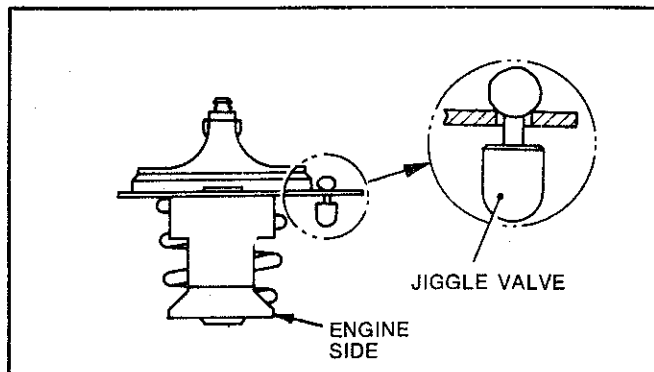

Fig. 6—Thermostat (imported type)
(3) Remove the thermostat and re-install the housing.
(4) Connect flushing gun, Tool E7C20, to the engine thermostat housing, using a length of rubber hose.
(5) Install a drain hose in the water pump inlet.
(6) Connect a flushing gun to sources of water and air pressure.
(7) Fill the block with water by restricting the drain hose. Leave the water valve open.
(8) Open and close the air valve to agitate and force away any foreign material. Continue the operation until the water runs clear.
(9) For final block flushing, fill the block with water and remove the drain plug. Use air pressure until the water from the block drains runs clear.
(10) To pressure flush the radiator, disconnect the two hoses from the engine and attach them to the radiator. Attach the flushing gun hose to the lower radiator tank and drain hose to the top tank.
(11) Fill the radiator with water, leave the water valve open, then open and close the air valve until the water runs clear.
(12) For final radiator flushing, attach flushing gun to top hose and repeat flushing operation.
(13) Test the thermostat. If satisfactory install with pellet toward engine, using new gasket (refer Fig. 6).
(14) Install hoses and refill cooling system as previously described.
(15) Run engine until normal operating temperature is reached and continue an additional five minutes to release any air trapped in system. Check coolant level and top up if necessary.